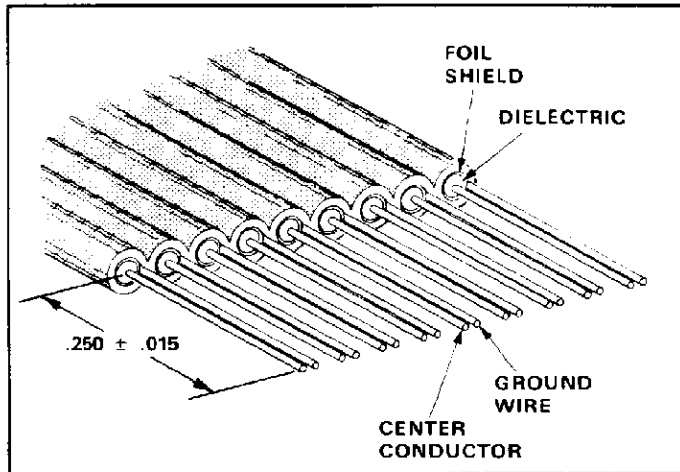

Fig. 2
consists of a center conductor, dielectric, foil shield, and a wire which is in continuous contact with the foil to prevent shorting (see Figure 2). The entire assembly is covered with an outer polyvinyl chloride (pvc) insulating jacket.
3. Strip cable .250 ± .015 in. (see Figure 2). AMP recommends any one of the following "Gang" model stripping machines available from Carpenter Mfg. Co., Fairgrounds Drive, Manlius, NY 13104-0188: